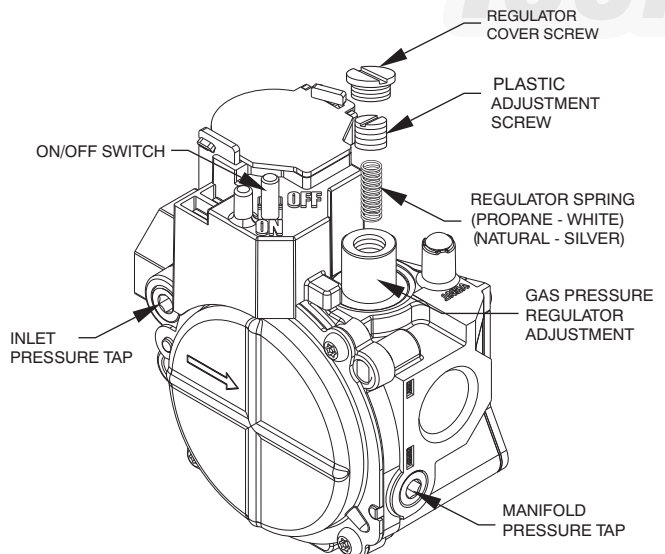

Fig. 13 – Single-Stage Gas Valve
2. For ultra low NOx models remove manifold pressure tap cover using an allen wrench. (See Fig. 13). Install barbed pressure tap and hose to connect to manometer. Turn on gas supply to unit.
1. Remove regulator cover screw over plastic adjustment screw on gas valve (See Fig. 13).
2. Turn plastic adjustment screw clockwise to increase gas input, or turn plastic adjustment screw counterclockwise to decrease input (See Fig. 13). Manifold pressure must be between 3.2 and 3.8 IN. WC.
3. Replace regulator cover screw on gas valve (See Fig. 13).
4. Turn off gas supply to unit. Remove manometer hose and barbed pressure tap. Replace pressure tap cover using an allen wrench (See Fig. 13.) Turn on gas to unit and check for leaks.